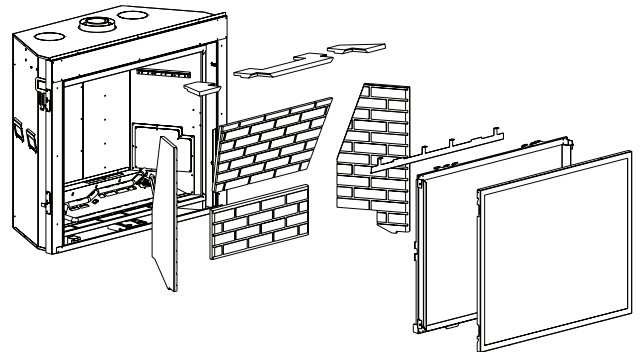

Figure 6
1. Remove the following items. See Figure 6.
9. Replace Glass Frame, Screen Barrier, and liners removed in Step 1, Figure 6.